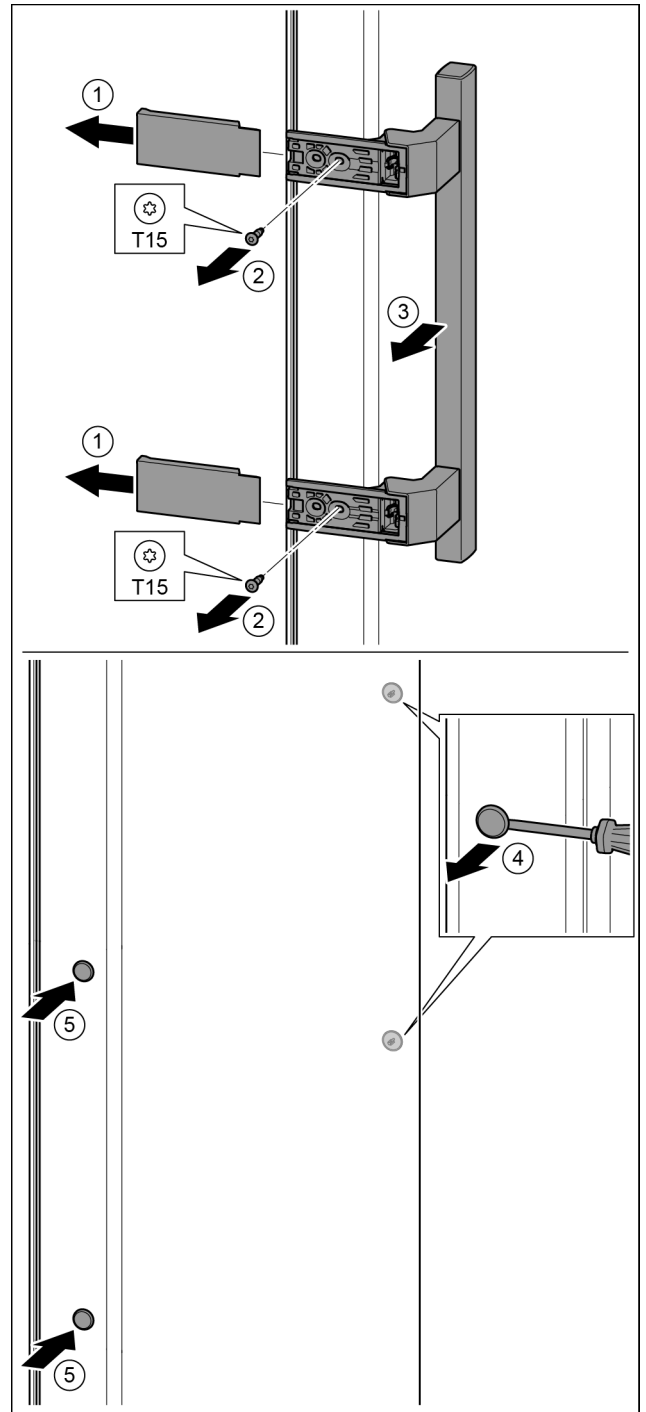

Fig. 20
- Pull off the cover. Fig. 20 (1)
- Remove the screws with the T15 screwdriver. Fig. 20 (2)
- Remove the handle. Fig. 20 (3)
- Carefully lift up the side plugs with a slotted screwdriver and pull them out. Fig. 20 (4)
- Insert the plugs again on the other side. Fig. 20 (5)